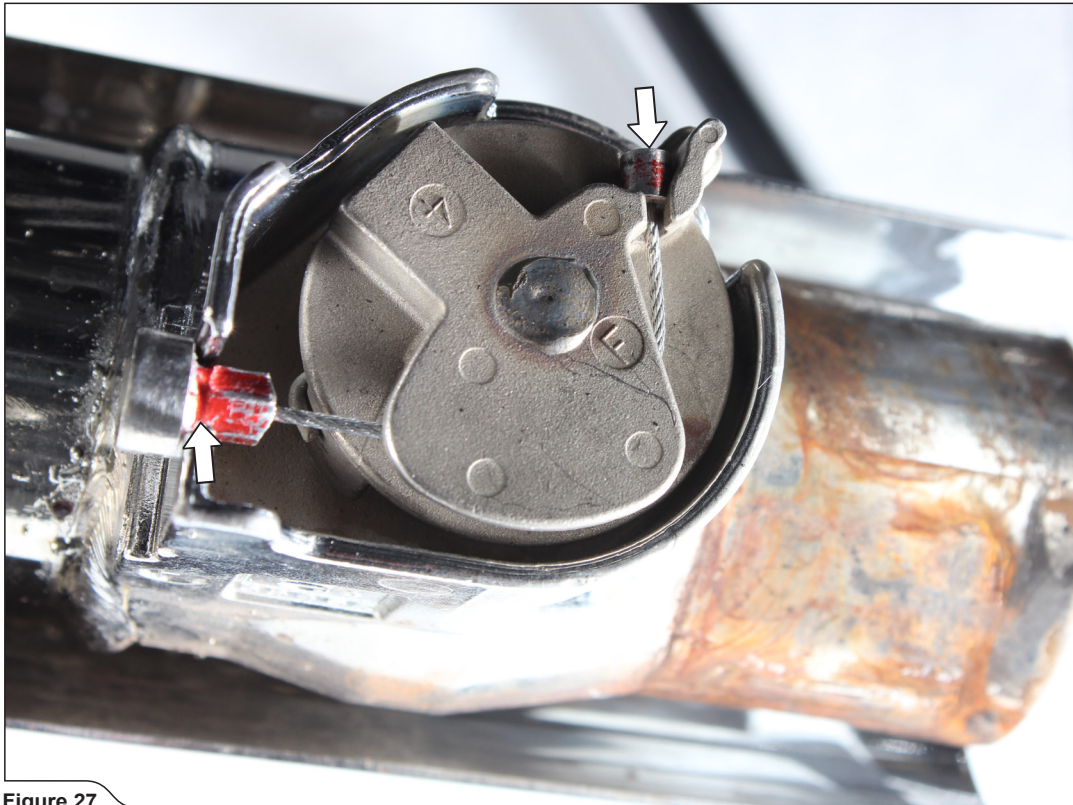

Figure 27
8. Lock the stock exhaust valve in the open position, using blocking cable from Akrapovič installation kit (Figure 27).